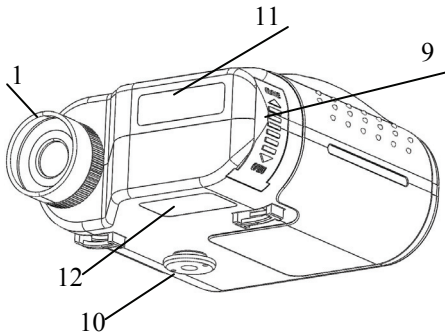

Fig.2. Rear view
- Slide the battery compartment cover down (Fig. 2)